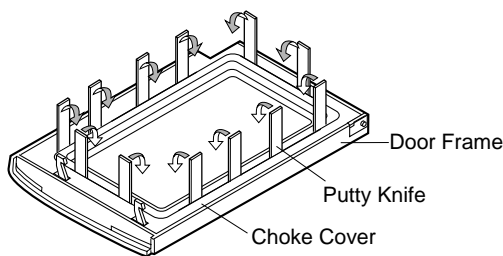

Figure C-4. Door Disassembly
3. Insert a putty knife (thickness of about 0.5mm) into the gap between the choke cover and door frame as shown in Figure C-4 to free engaging parts.
4. Pry the choke cover by inserting a putty knife as shown Figure C-4.